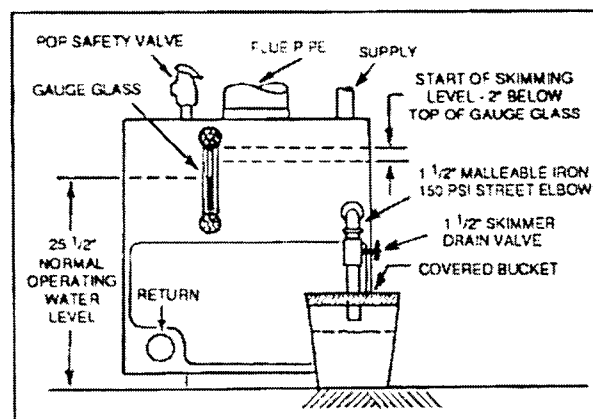

Figure 9.
a 1-1/2" NPT skimmer valve and length of pipe and place a bucket underneath the open end of the pipe. Cover bucket with a piece of cloth. (See figure 9)
- E. Repeat (D) above until all film is skimmed off and the water settles to a normal movement. Add make up fresh water to the boiler as described in (D) above, during the blow-off operation, to maintain the proper skimming water level in the vessel. Empty bucket frequently in order to see the difference in water cleanliness.
- F. When surging has stopped and water is clean, and no film can be seen floating in the bucket, shut off boiler, drain down to level of skimmer tapping, remove valve, plug skimmer tapping and refill the boiler to 24-1/2" water level. After 15 minute operation, readjust level to normal operating level of 25-1/2" from bottom of boiler (see figure 9). Check the pop safety valve for proper operation. Check the low water cut-off operation, see below.